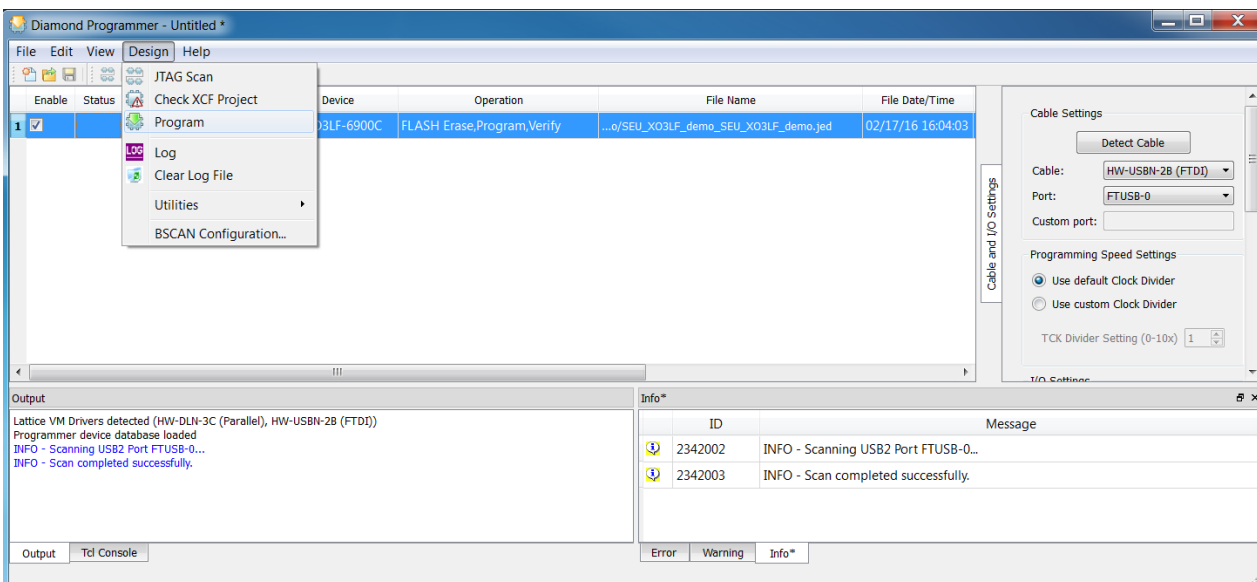

Figure 8.5. Launching the Program Step
10. On the menu bar, click **Design**, and on the dropdown menu click **Program** to initiate programming of FPGA as shown in Figure 8.5.